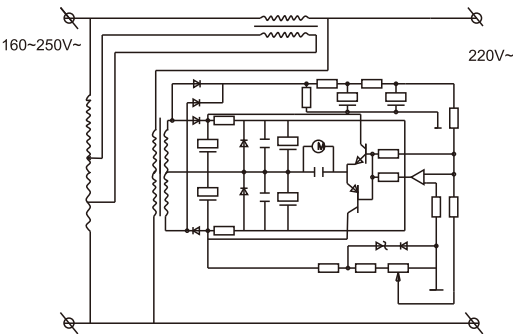

Figure 3
- ☐ See Figure3 for electrical schematic diagram above SVC-5kVA;